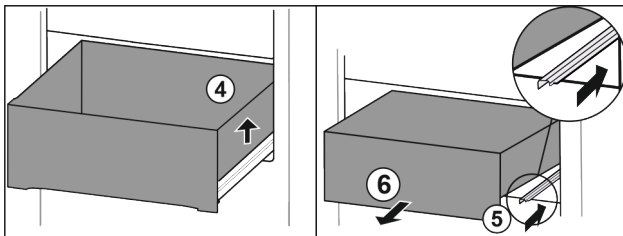

Fig. 127
- ▶ Lift drawer on the right. Fig. 127 (4)
- ▶ Insert right rail. Fig. 127 (5)
- ▶ Remove drawer to the front. Fig. 127 (6)